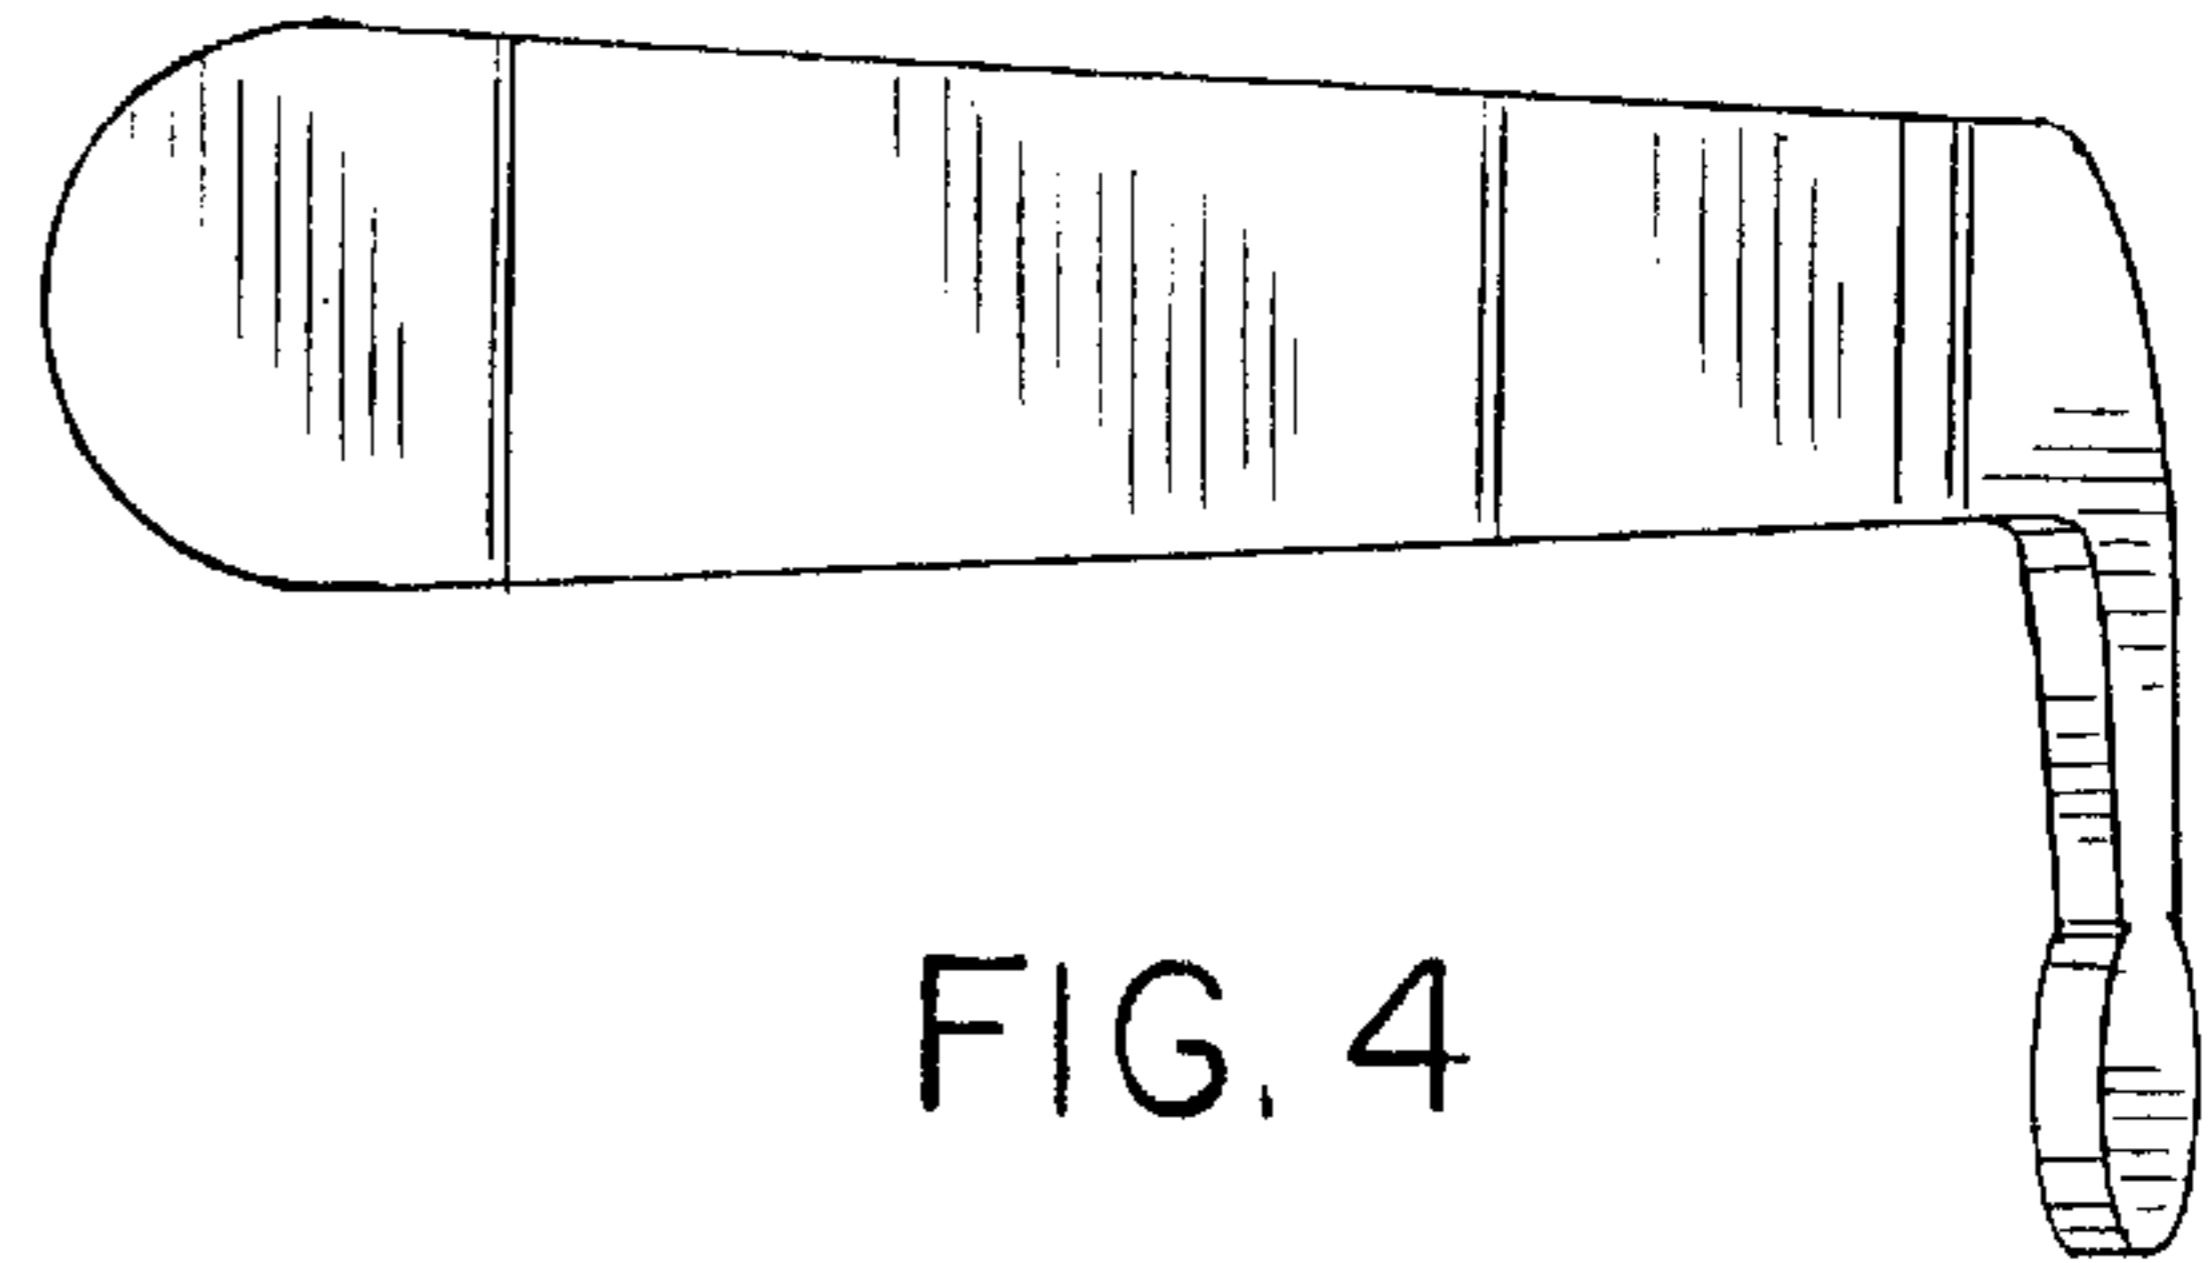

FIG. 4
- FIG. 4 is a front view thereof;